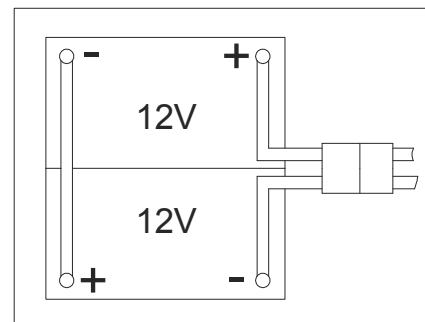

Figure 3
The machine requires two 12 V batteries, connected according to the diagram (Figure. 3).
- Open the recovery tank cover (1) and check that the recovery tank (25) is empty; otherwise empty it with the drain hose. (22)
- Close the recovery tank cover (1).
- Overturn the recovery tank (25) carefully.
- Route and install the battery cable as shown in (Figure3), then carefully tighten the nut on each battery terminal.
- Place the protection cap on each terminal, then connect the battery connector (38).
- Carefully lower the recovery tank (25).